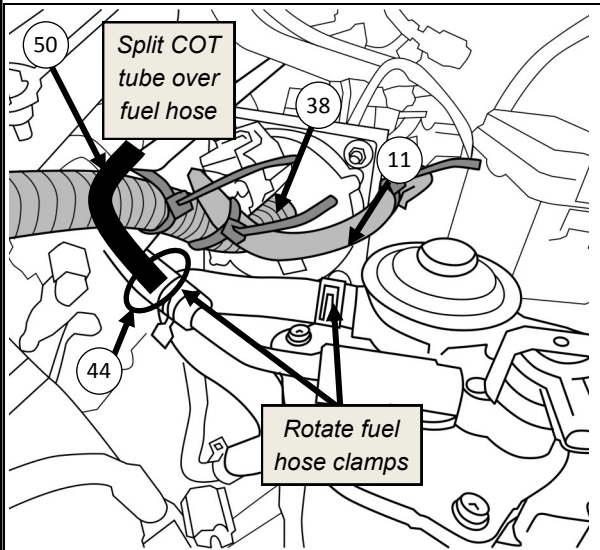

Figure 22: Rotate Fuel Hose clamps
- Rotate 2X OE Fuel Hose clamp tabs away from Cable Positive (Item 38) and Winch Controller Harness (Item 11) to gain better clearance from the wiring as shown in Figure 22.